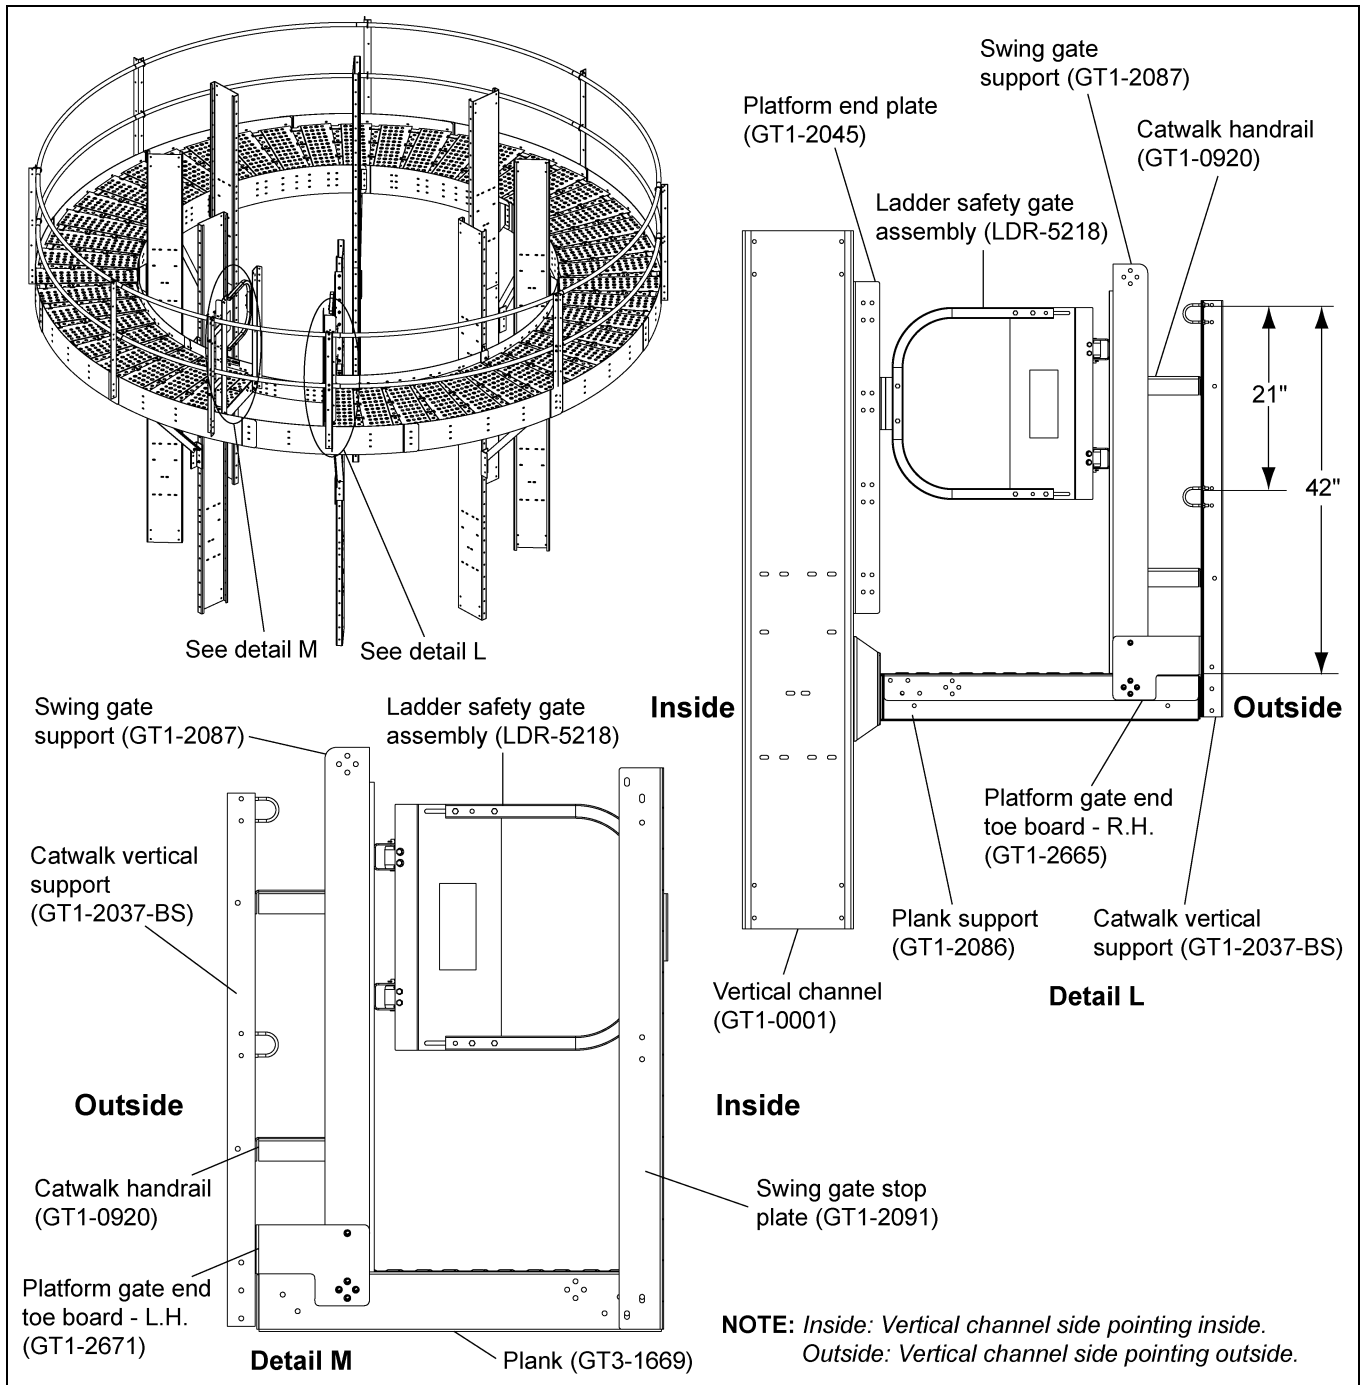

Figure 4X
1. Install the ladder safety gate assembly (LDR-5218) to the swing gate support (GT1-2087) using 3/8"-16 x 1" JS grade 8 or grade 8.2 bolts (S-7485) and 3/8"-16 ZN grade 5 nuts (S-968). (See detail L in Figure 4X.)
2. Install the ladder safety gate (LDR-5218) to the swing gate support (GT1-2087) and attach the stop plate (GT1-2091) to the ladder opening toe board (GT1-2089) and the plank (GT3-1669) using 3/8"-16 x 1" JS grade 8 or grade 8.2 bolts (S-7485) and 3/8"-16 ZN grade 5 nuts (S-968). (See detail M in Figure 4X.) The distance between the plank and handrail is 42".